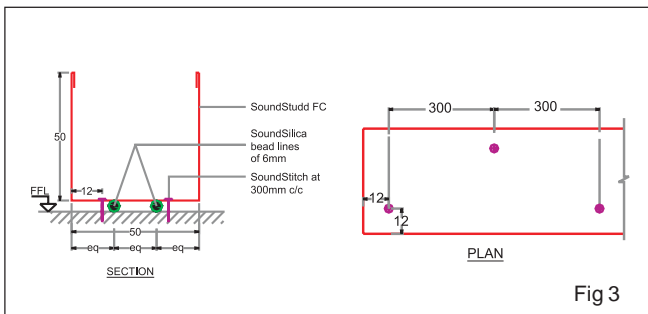

Fig 3
Studd Floor Channel (FC) and Head Channel (HC) of specified depth, usually 50 mm, are mechanically fastened to the building elements with Stitch PB - mechanical fasteners - at 300 mm pitch with a electric self-drilling tool. (See Fig 3) For Stitch PB, holes are first drilled in the concrete, plugs inserted and the screws fastened. Where base masonry is weak, Stitch AB expansion bolts are inserted for better grip.